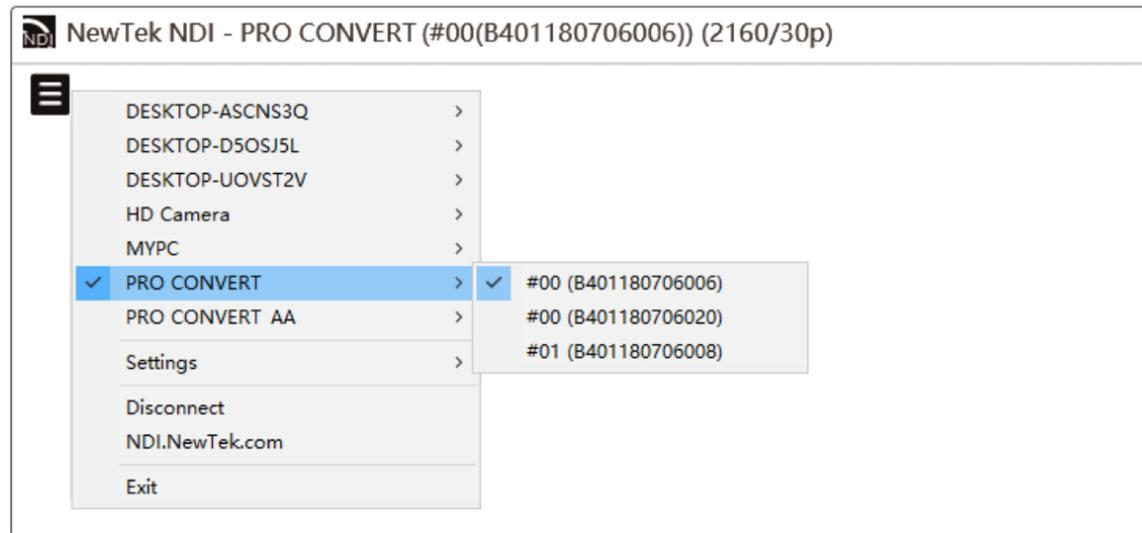

Figure1. Select NDI stream in NDI Studio Monitor
Step 1 Connect your converter via Ethernet and power it up as shown in the Figure1. Connections.